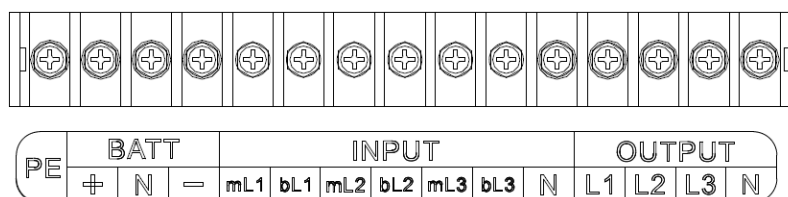

Fig.2-11 Connections terminals for 10/15kVA Series
2. Open the back door of the cabinet, remove the plastic cover. The input and output terminal, battery terminal and protective earth terminal are shown in Fig.2-11 & Fig 2.13.